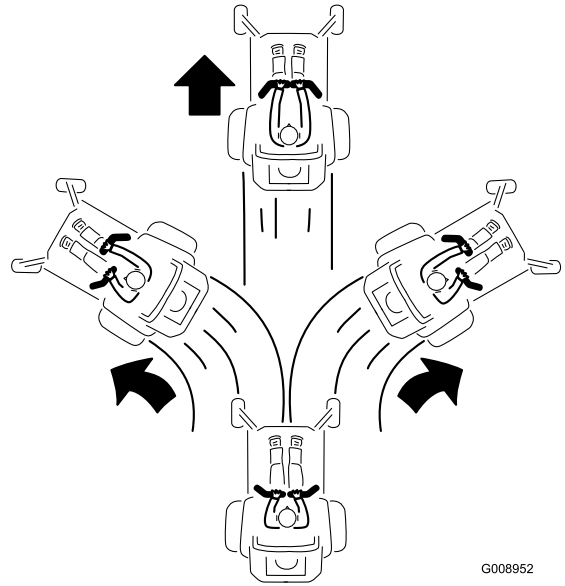

Figure 14
2. To go forward, slowly push the motion-control levers forward (Figure 14).
- To go straight, apply equal pressure to both motion-control levers (Figure 14).
- To turn, release pressure on the motion-control lever toward the direction you want to turn (Figure 14).